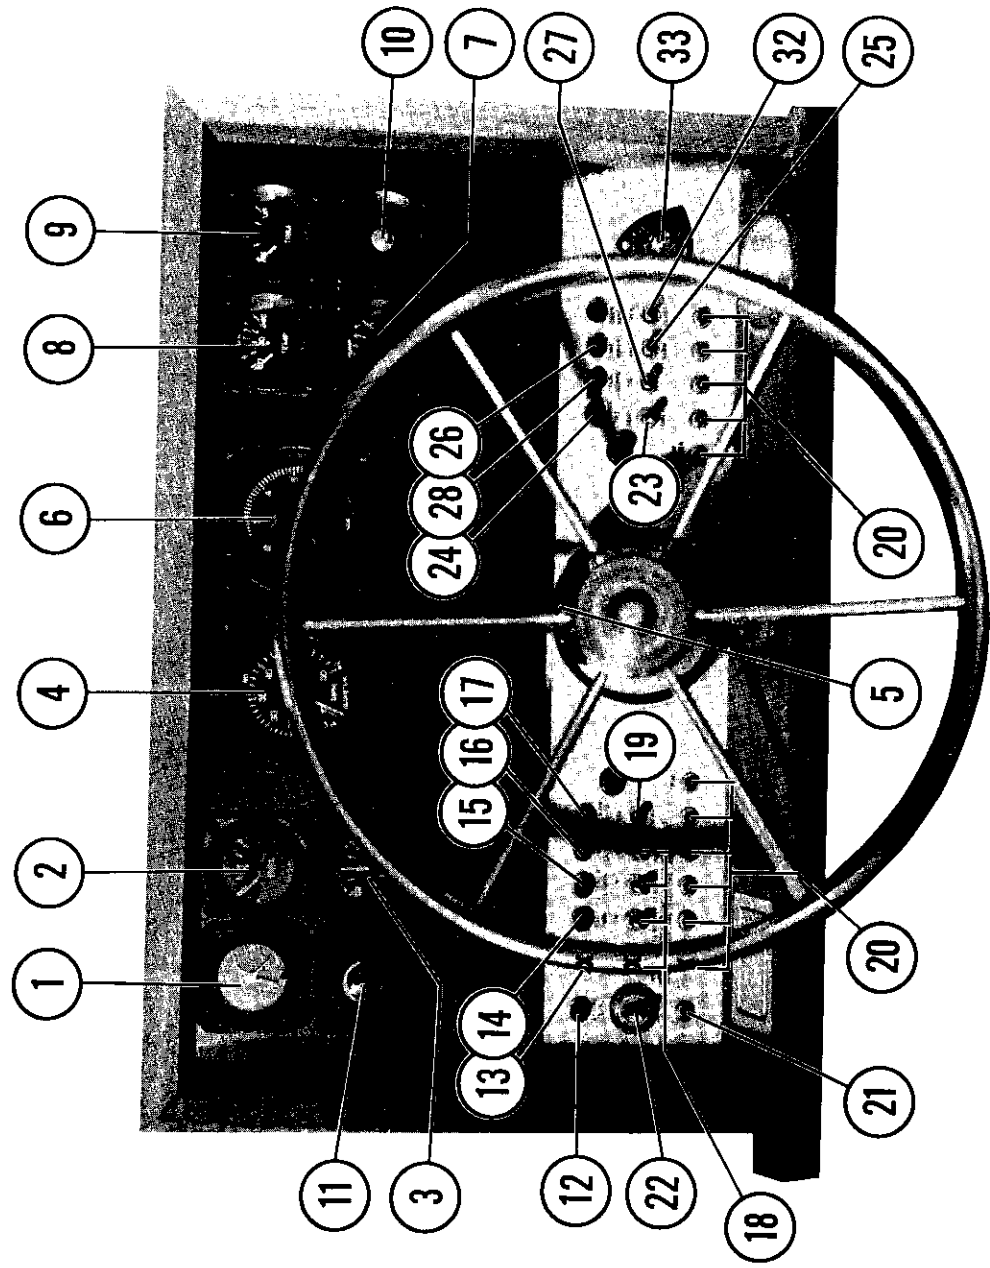

Figure 1
**6. Instrument Panel (See Figures 1 and 2, Pages 16 and 17)**